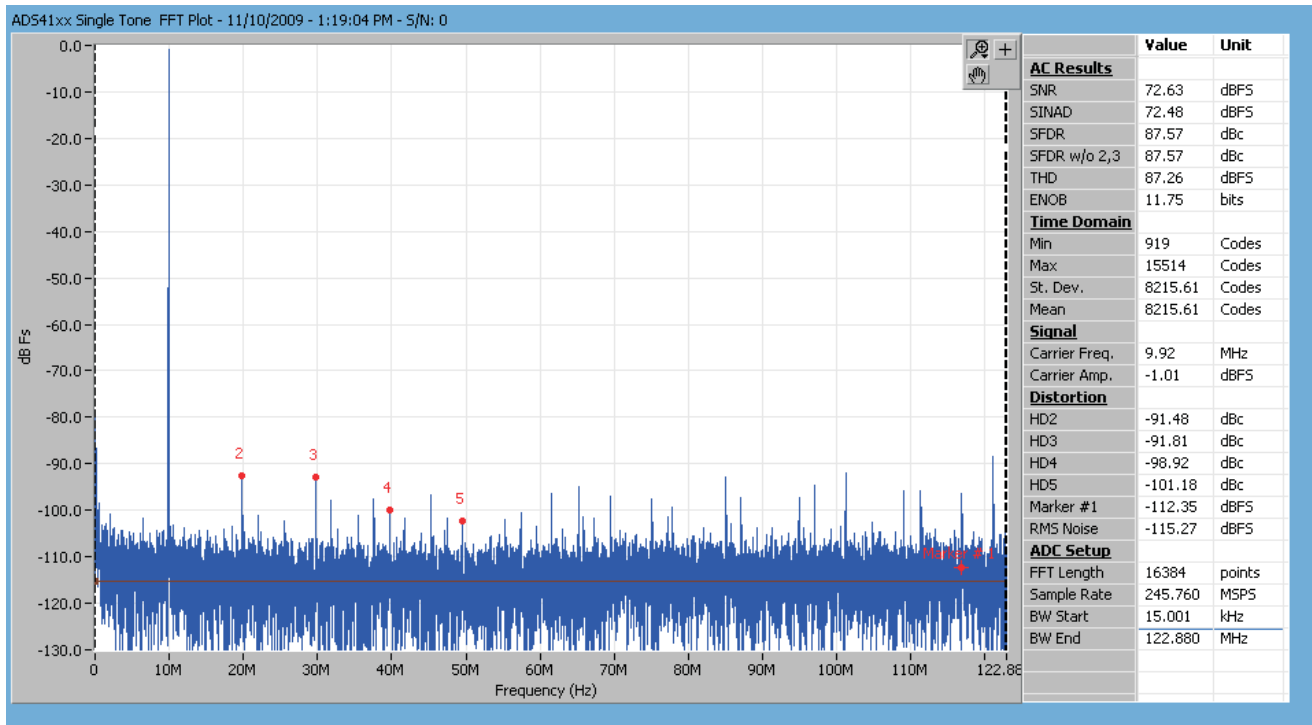

Figure 10. Quick-Setup Test Result.
Option 1 supplies the transformer-coupled input from J6 to ADC. This configuration is the default on the EVM. The test result using this option is shown in Figure 10. A double-transformer input circuit is used to provide better differential to single-ended conversion than a single transformer can provide. The transformers used are both of a 1:1 turns ratio, so termination of the 50-Ω input signal path after the transformers can be two 25-Ω resistors terminated to the common-mode voltage (VCM) provided by the ADC.
- Measurement is illustrated in Figure 10.
The user can make the jumper setting as mentioned in Table 1. In this configuration, the EVM uses an external clock source from J19 and a direct input signal J6 to the ADC. This setup uses Power Option 2 (Table 3), Clock Option 1 (Table 5), and Analog Input Option 1 (Table 7), which is the default on the EVM. Figure 10 shows the ADC performance capture using TSW1200 with the input signal of a 100-MHz frequency and clock frequency of 245.76 MHz with ADS4149.